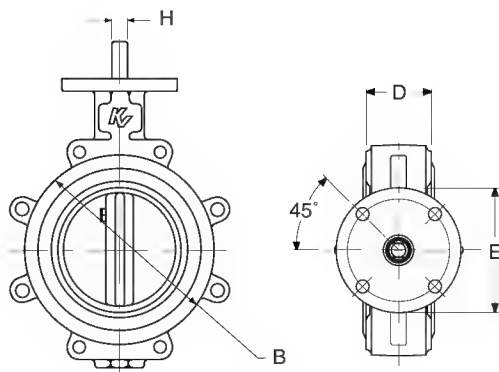

Figure 222* (250 psi) Dimensions in inches (mm)
^a Honeywell VF52 and VF53 Valves consist of an actuator and a Keystone Figure 222 or Figure AR2 Valve. Honeywell VH52 and VH53 Valves consist of an actuator and a Keystone K-Lok® Valve.
* Figure 222 valves are rated for 250 psi bi-directional service. Standard actuator sizing is based on 150 psi line pressure.